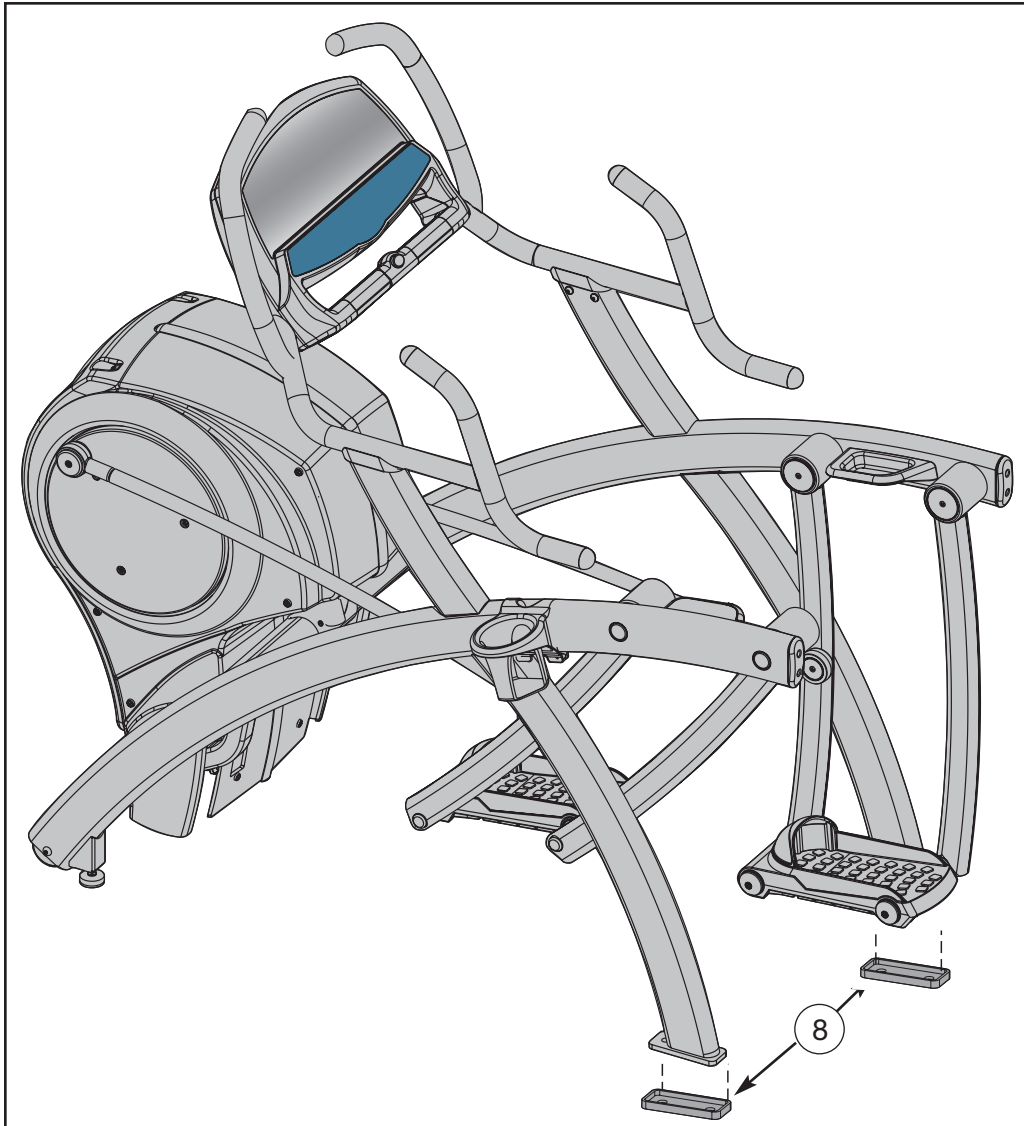

Figure 8
- B. Have one person lift the unit while a second person adheres a foot cover on each of the two back feet. See Figure 8.